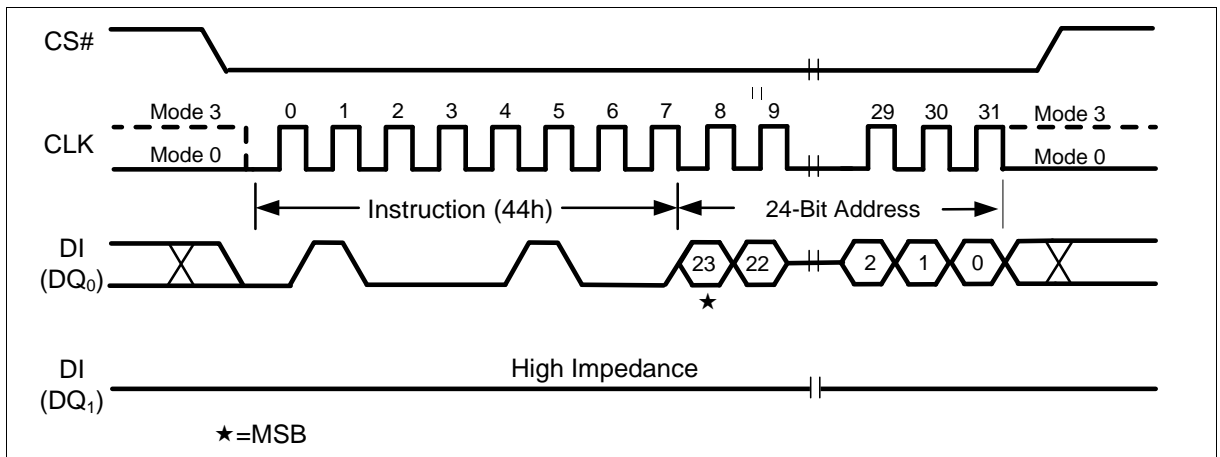

Figure 53 Erase Security Sector Instruction (SPI Mode only)
The Erase Security Sector instruction sequence is shown in Figure 53. The CS# pin must be driven high after the eighth bit of the last byte has been latched. If this is not done the instruction will not be executed. After CS# is driven high, the self-timed Erase Security Sector operation will commence for a time duration of t_{SE} (See “12.6AC Electrical Characteristics”). While the Erase Security Sector cycle is in progress, the Read Status Register instruction may still be accessed for checking the status of the WIP bit. The WIP bit is a 1 during the erase cycle and becomes a 0 when the cycle is finished and the device is ready to accept other instructions again. After the Erase Security Sector cycle has finished the Write Enable Latch (WEL) bit in the Status Register is cleared to 0. The Security Sector Lock Bit (LB) in the Status Register-2 can be used to OTP protect the Security Sectors. Once the LB bit is set to 1, the Security Sector will be permanently locked, Erase Security Sector instruction will be ignored.